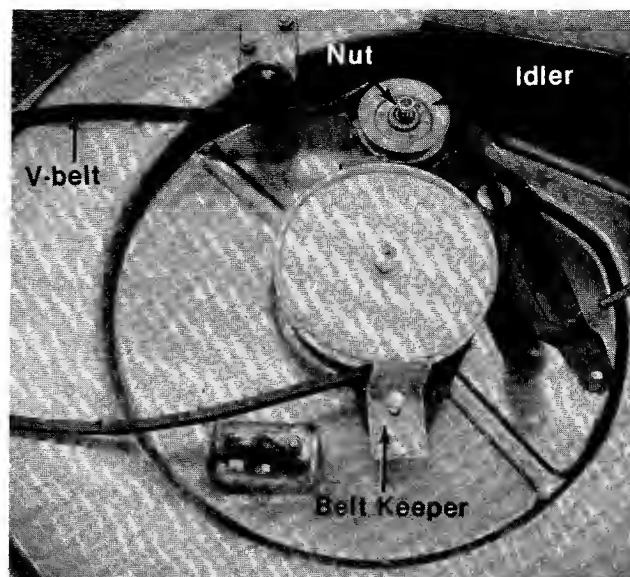

FIGURE 50.
3. Remove the belt keeper on the cutting deck. See figure 50.
4. Remove the nut from the idler on the cutting deck and remove the idler. See figure 50.